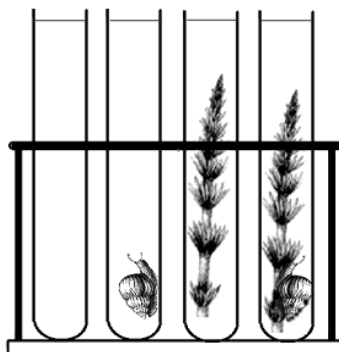

Figure 3
11. Place one sprig of elodea in test tubes 3, 4, 7, and 8. Each set of four tubes should appear similar to those in Figure 3.